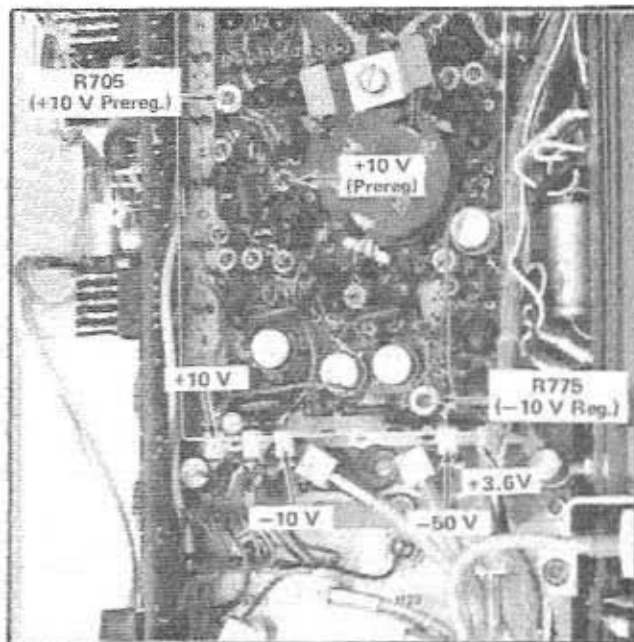

Fig. 6-2. Power regulator test points and adjustments.
b. Connect an accurate (within 1%) voltmeter between chassis ground and the +10 V pre-regulated supply (Fig. 6-2).
d. Adjust R705 (Fig. 6-2), if necessary, to bring the +10 V pre-regulated supply within limits.
g. Adjust R775 (Fig. 6-2) to bring -10 V supply within limits.
h. CHECK—Voltage of remaining regulated supplies (+10 V, +3.6 V, -50 V, -6.4 V). See Fig. 6-2. Voltages should measure within 2% of that specified.